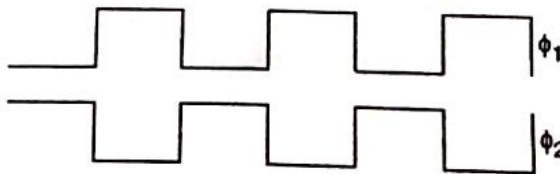

Fig. 4.1 : 2 Phase TTL clock
- (1) It is an 8 bit microprocessor i.e. it can accept or provide 8 bit data simultaneously.
- (2) It is a single chip, NMOS device implemented with 6200 transistors.
- (3) It requires a single +5V power supply.
- (4) It provides on chip clock generator, hence it does not require external clock generator, but it requires external tuned circuit like LC, RC or crystal.
- (5) It requires two phase, 50% duty cycle, TTL clock. These clock signals are generated by an internal clock generator. (Refer Fig. 4.1).
- (6) The maximum clock frequency is 3 MHz and minimum clock frequency is 500 KHz.
- (7) It provides 74 instructions with the following addressing modes : register, direct, immediate, indirect and implied.
- (8) The data bus is multiplexed with address bus, hence it requires external hardware to separate data lines from address lines. (This is the drawback of 8085).
- (9) It provides 16 address lines, hence it can access  $2^{16} = 64$  K bytes of memory.